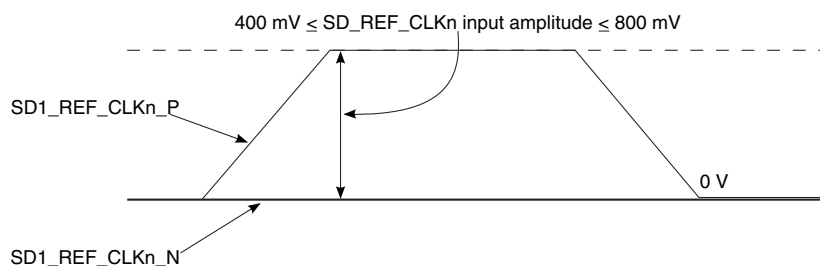

Figure 66. Single-ended reference clock input DC requirements
- The SD1_REF_CLKn input average voltage must be between 200 and 400 mV. Figure 66 shows the SerDes reference clock input requirement for single-ended signaling mode.